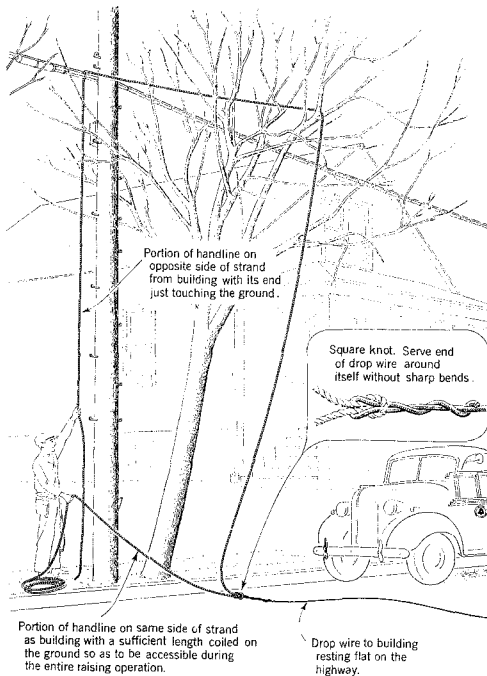

Fig. 5 — Drop Wire Tied to Handline
(1) When placing the handline over the strand, guard arm, drive hook, or crossarm, locate it among the branches of the tree as illustrated in Fig. 5, in order that the drop wire may be raised to the
(b) Tie the end of the drop wire to the handline as shown in Fig. 5 at a point in that portion of the handline toward the building which will permit the employee to have access to both ends of the handline from his position on the ground during the entire raising operation.